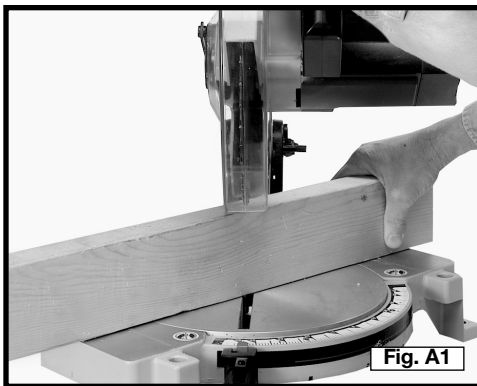

Fig. A1
1. Your machine has the capacity to cut standard 2 x 4's lying flat or on edge, at the 45 degree right and left miter angles (Figs. A1 and A2).